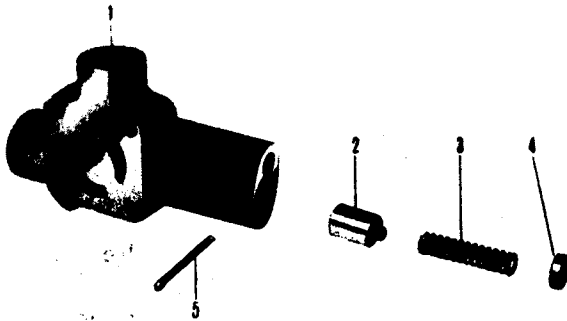

Fig. N.11.
3. Remove split pin from end of housing and withdraw spring cap, spring and plunger. Exploded view of assembly shown in Fig. N.11.